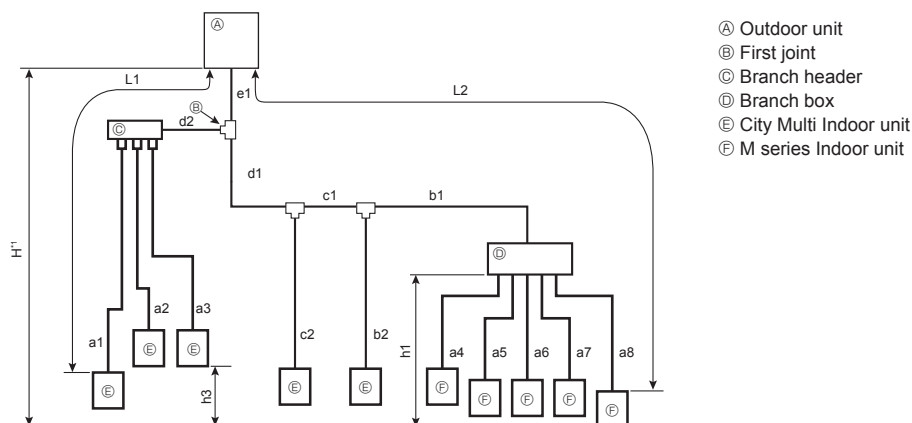

Fig. 4-6 (a)
4.1.3. Mixing system (City Multi indoor units and M series indoor units (Connection with Branch box)) (Fig. 4-6)